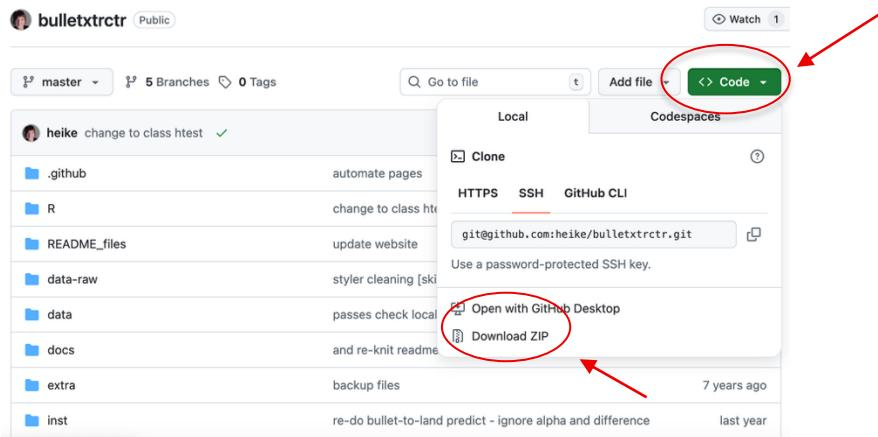

Figure 3. Click Code and then Download ZIP on the bulletxtrctr GitHub page to download bulletxtrctr.
- Click the green Code button and select Download Zip. (Figure 3)